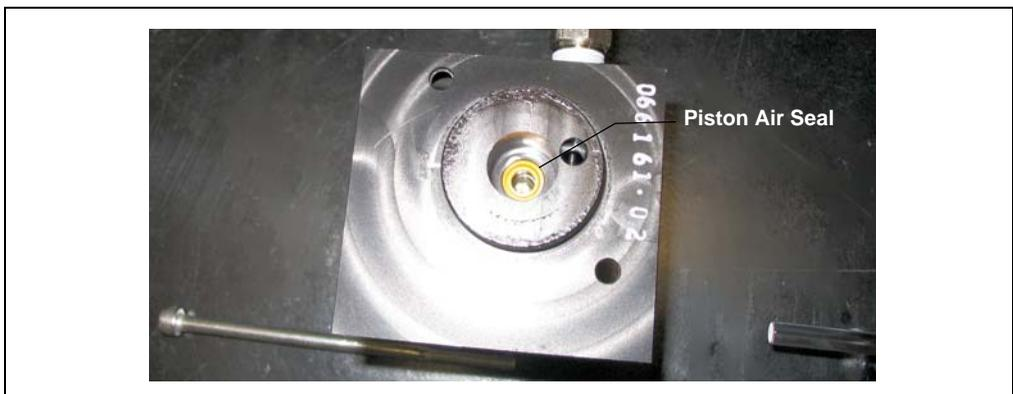

Figure 5-16. Removing the Piston Air Seal
5. To remove the piston air seal from the left end plate (see Figure 5-16), insert the wooden end of a cotton-tipped swab and pry out the seal. Discard the seal.